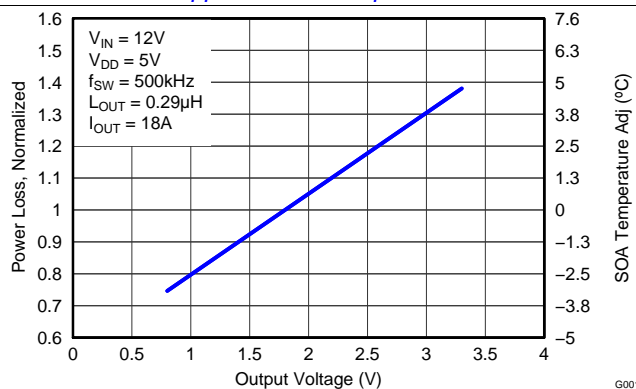

Figure 7. Normalized Power Loss vs Output Voltage
- Normalized Power Loss for output voltage  $\approx 0.92$  (Figure 7)
- SOA adjustment for output voltage  $\approx -0.9^\circ\text{C}$  (Figure 7)